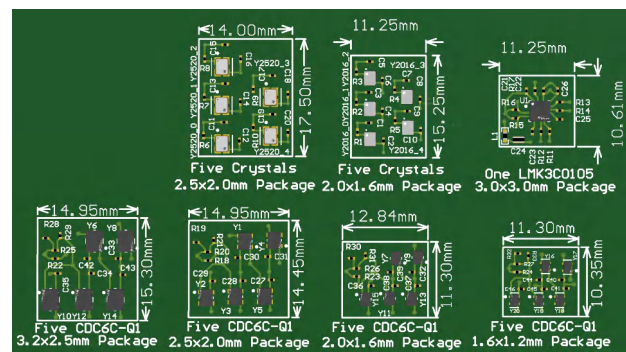

Figure 6. Five Crystal, Five CDC6C-Q1, and LMK3C0105-Q1 Footprint Comparison
- **PCB Area:** TI's BAW Oscillator family supports 1.8V-3.3V supply voltages and are available in standard 4-pin DLE (3.2mm \times 2.5mm), DLF (2.5mm \times 2mm), DLX (2mm \times 1.6mm), and DLY (1.6mm \times 1.2mm) packages with wettable flank, which save space in compact board designs. Figure 6 showcases BAW Oscillator layouts in comparison to typical crystal layouts for several package sizes. Crystals require up to four external components to tune the resonant frequency and maintain active oscillation. Active oscillators such as the CDC6C or LMK6C only require a single capacitor for power supply filtering, which simplifies the BOM and significantly reduces
the layout area required. Additionally, parasitic capacitance from PCB traces does not affect the frequency accuracy of an active oscillator, allowing the oscillator to be placed much farther away from the receiver compared to crystal. Both the LMK3H0102-Q1 and LMK3C0105-Q1 are available in a 3x3 package with wettable flank. As both devices can be used in place of 5 single channel clocks, TI offers a 55% size reduction to PCB space per Figure 6.